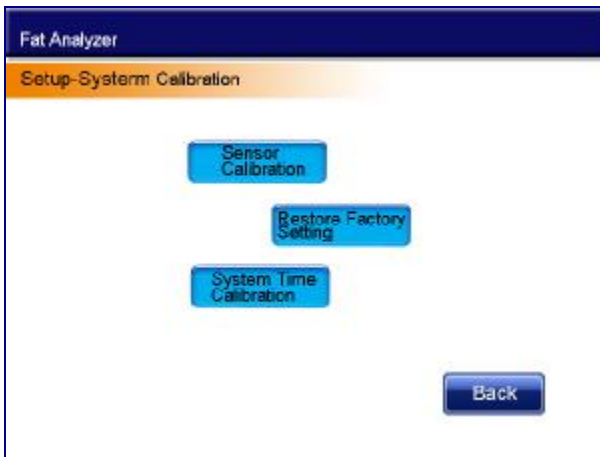

Fig.21
4.2.4.3 Choose **System Calibration**, the interface appears, as shown in Fig.21.